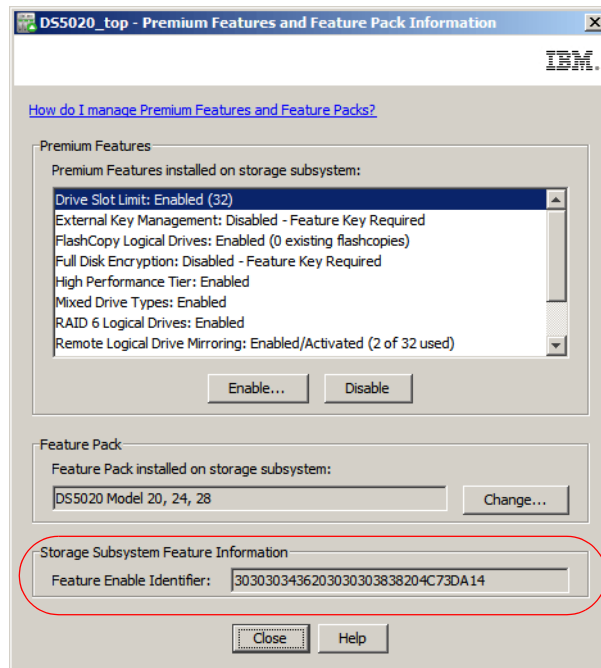

Figure 1-1 Premium Features and Feature Pack Information
1. From the Subsystem Management window of your DS storage subsystem, select **Storage Subsystem** → **Premium Features** to open the window, as shown in Figure 1-1. It indicates the current activation status of the premium features in your subsystem.
1. From the Subsystem Management window of your DS storage subsystem, select **Storage Subsystem** → **Premium Features**. This opens a window displaying the current activation status of the premium features in your subsystem as shown earlier in Figure 1-1 on page 6.